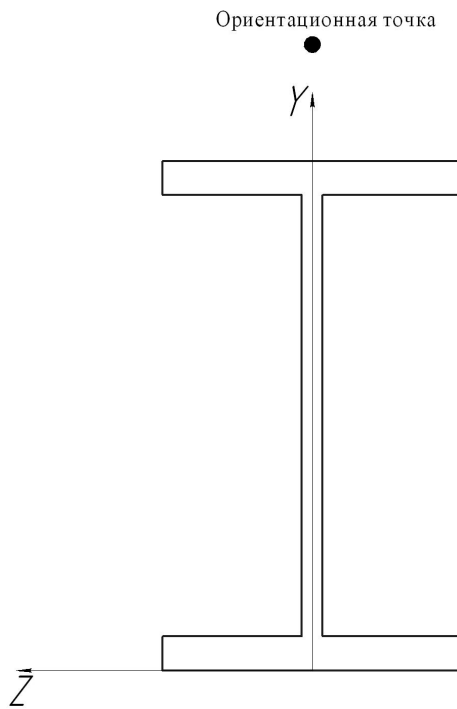

Fig. 2.4. Orientation point location
3) To orient the section of the beam in space, an orientation point is given. To orient the I-section along the Y-axis (Fig. 2.4), create a point 4 (0,1,0).